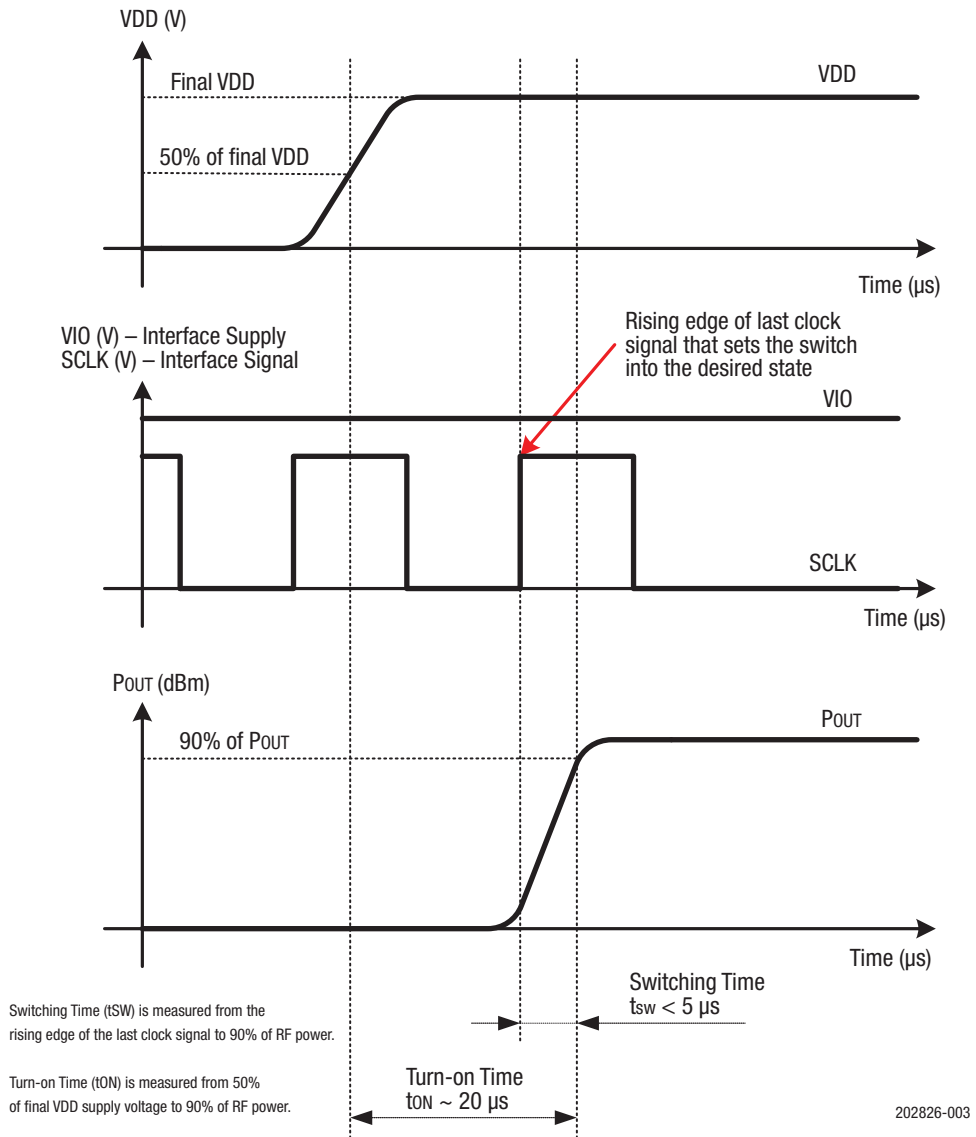

Figure 3. SKY13492-21. Timing Diagram
Figure 3 shows a timing diagram. Figure 4 illustrates the test setup used to measure intermodulation products. This industry standardized test is used to simulate the WCDMA Band 1 linearity of the antenna switch. A +20 dBm continuous wave (CW) signal, f_{FUND} , is sequentially applied to the TRX1 through TRX14 ports, while a -15 dBm CW blocker signal, f_{BLK} , is applied to the ANT port.